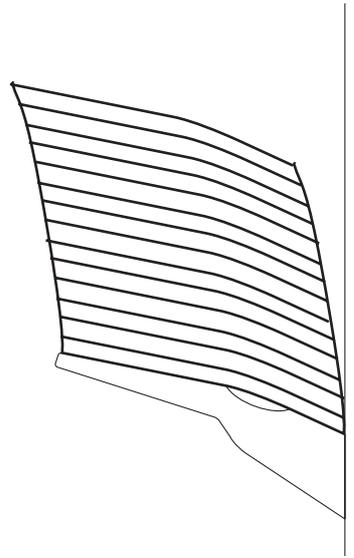

Figure 5-131
- When paper free of curling or paper with downward curling is used after selecting this mode, the high speed of delivery can cause the stacks to fall away from the stacking wall (Figure 5-131). As such, be fully sure when selecting this mode by thoroughly studying the type of paper used by the user.